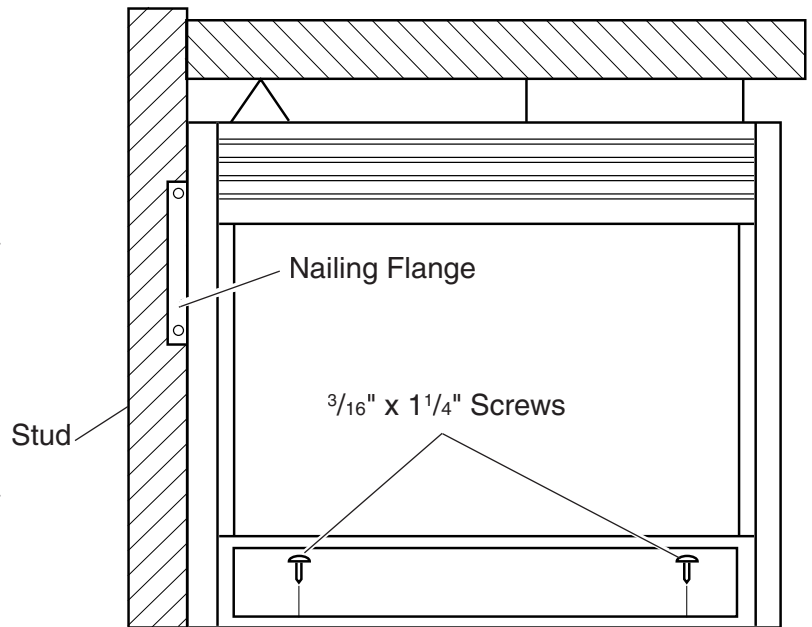

Figure 14 - Location of Nailing Flanges and Floor Screws
2. Bend out two (2) nailing flanges to 90°.
4. Attach nailing flanges to studs. *See Figure 14.*
6. Anchor firebox to floor with four $\frac{3}{16}$ " x $1\frac{1}{4}$ " screws through holes located on the bottom of the firebox. *See Figure 14.*